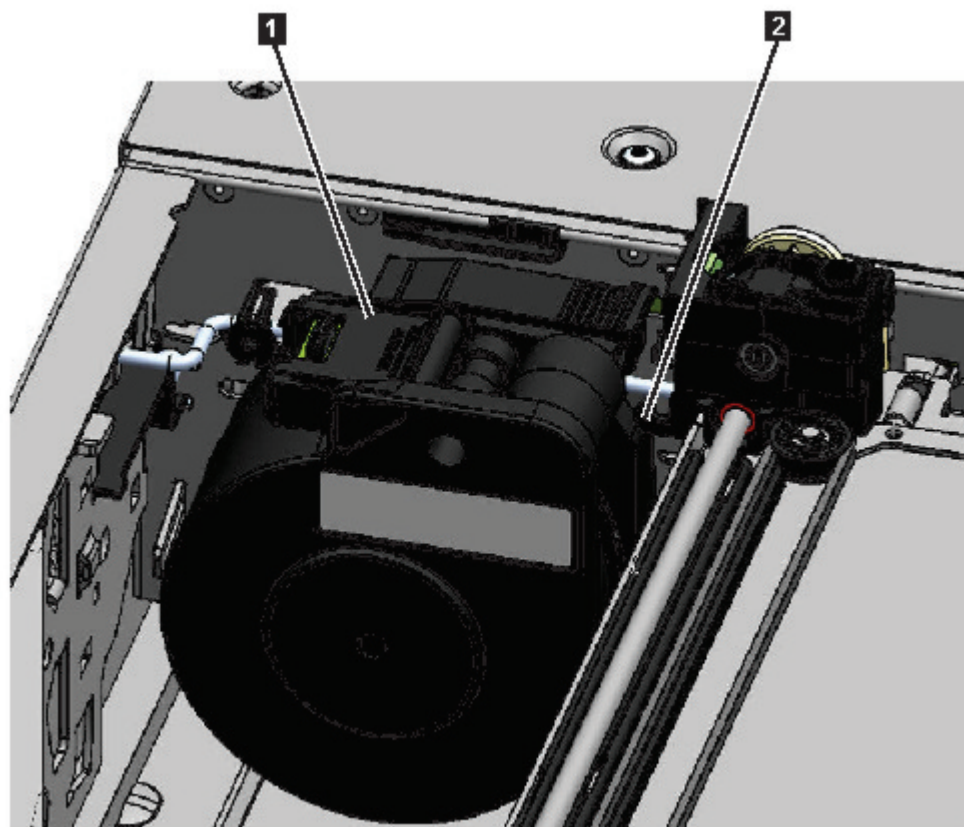

Figure 75. Spooling cable in park position
Note: Note where the end of the spooling cable pivots in the accessor. It is important to know when you attach the new spooling cable to the accessor. See 2 in Figure 75 on page 138.
9. Place the spooling connector (1 in Figure 75 on page 138) to the park position.